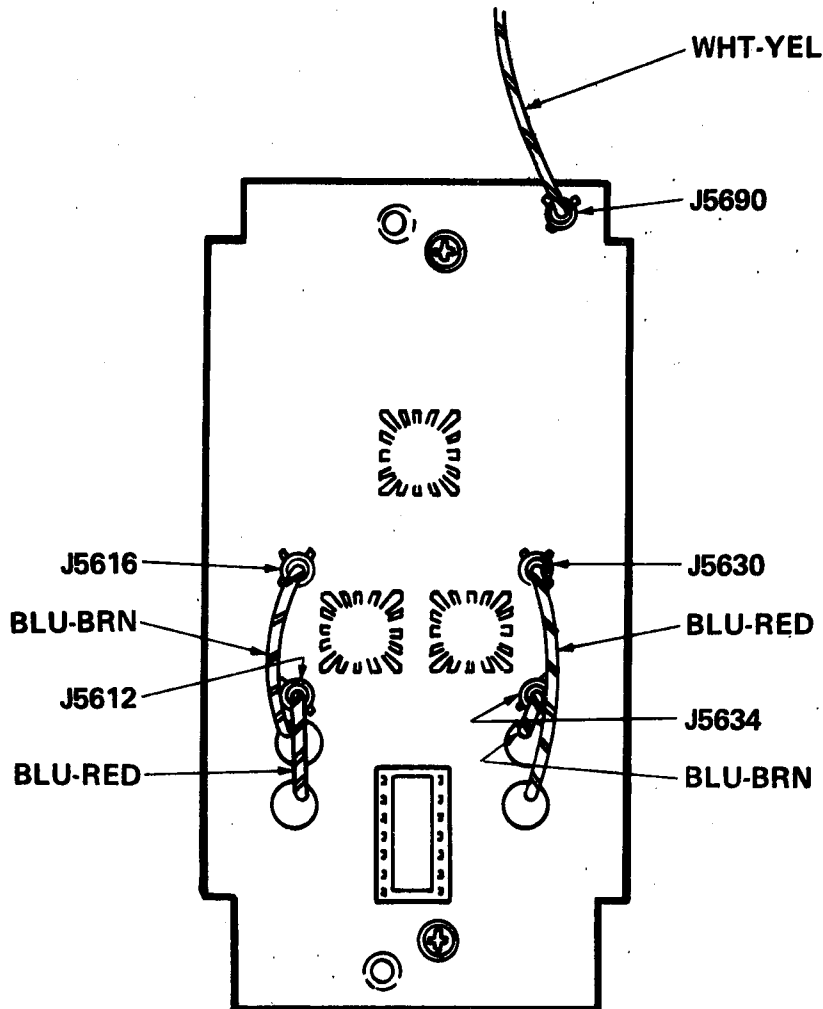

Fig. 1. Cable connections for 'B' Trigger Selector circuit board.
- () 17. Insert the newly installed coaxial cables through the aligned holes in the new 'B' Trigger Selector circuit board (included in the kit). See Fig. 1.
- () 21. Connect the four coaxial cables (added above) to the 'B' Trigger Selector board as follows (see Fig. 1):
- () 28. Connect the other end of the white-yellow coax to J5690 on the 'B' Trigger Selector circuit board (see Fig. 1). Route the cable along the plug-in housing frame and down between the Main Interface circuit board and the housing.
- () 30. Refer to the Calibration Section (3) of the instruction manual and attached manual insert, then check instrument performance, especially the Trigger System, making any necessary adjustments.